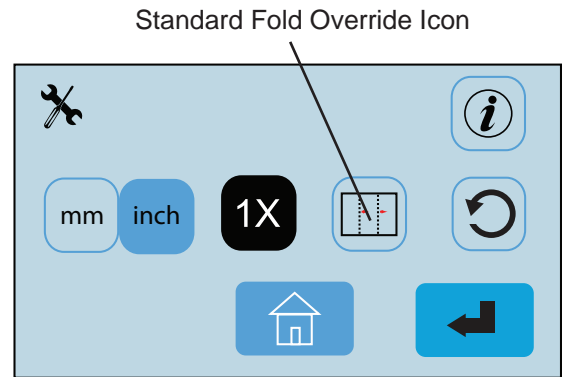

Fig. 38
1. It may be necessary to adjust the factory set standard fold settings for a particular fold type and paper size. This can be done in the Standard Fold Override Mode. From the Operator Settings menu select the Standard Fold Override icon  (Fig. 38) and press the enter  icon to select.